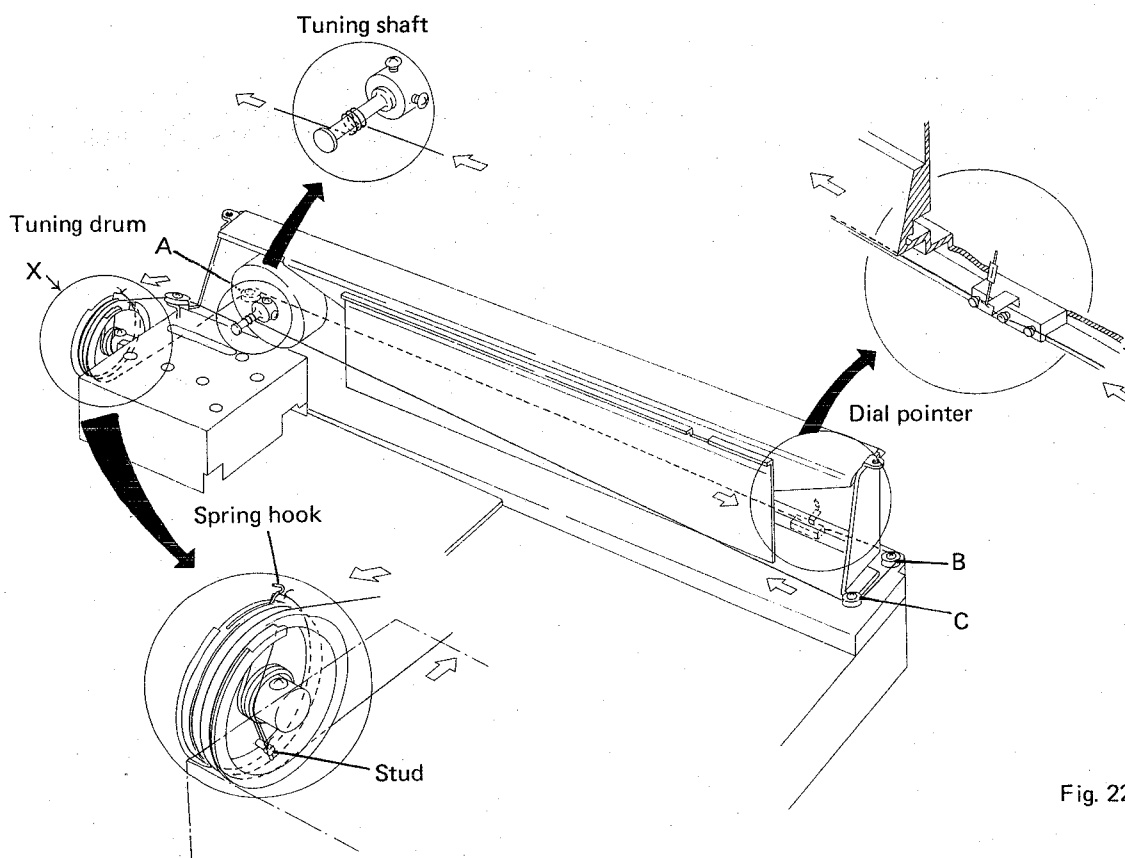

Fig. 22
3. Turn tuning drum fully clockwise (as viewed from X direction in Fig. 22).